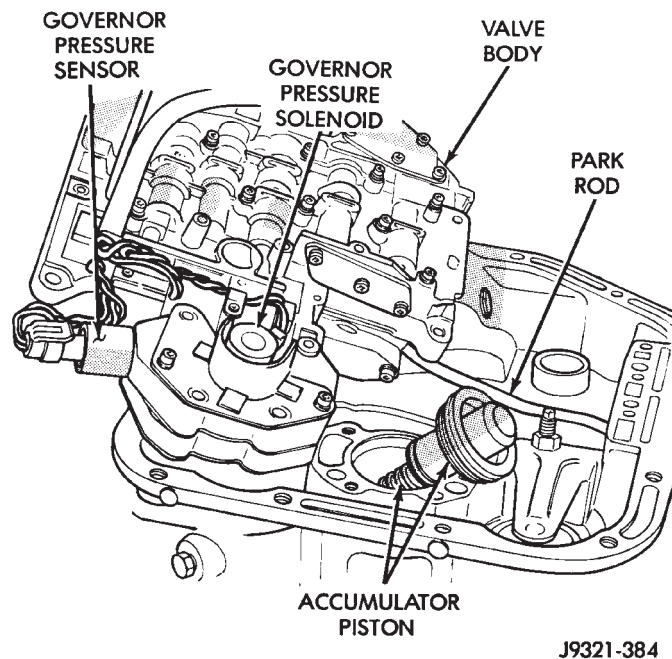

Fig. 99 Valve Body Removal
(10) Remove valve body assembly. Push valve body harness connector out of case. Then work park rod and valve body out of case (Fig. 99).